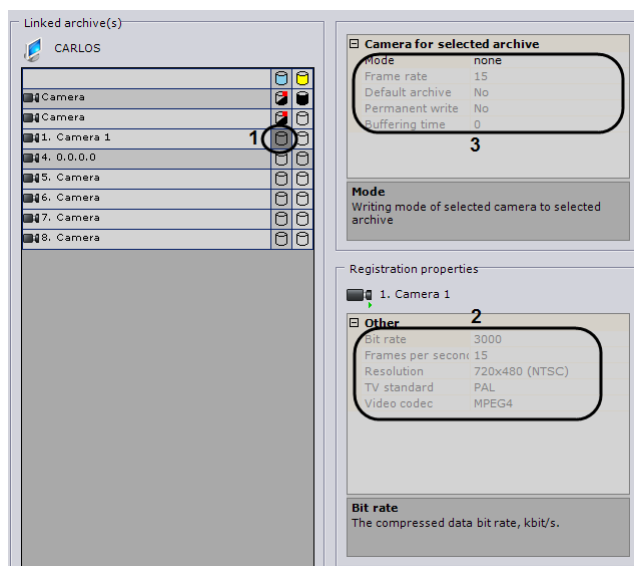

Fig. 6.6—7 Configuring recording from a video camera to an archive
2. From the **Mode** list (see Fig. 6.6—7, 3), select the desired mode of recording the video stream from the video camera to the archive: none, recording with scaling, recording with the fps given in the camera settings.